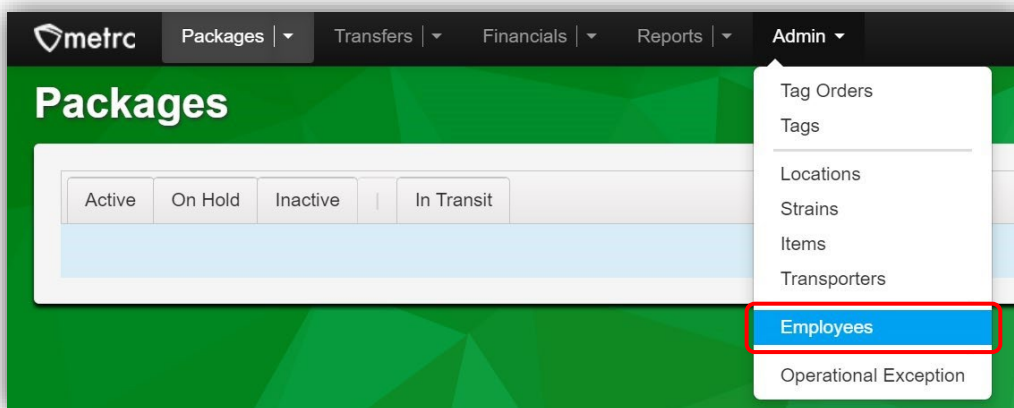

Figure 1: Employee area in Admin dropdown
- To add the permission to view and/or manager Processing Jobs, go to the Employees option in the Admin area dropdown from the Navigational Toolbar – **see Figure 1.**